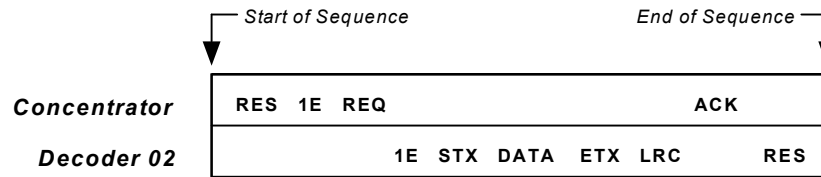

Figure 2-2 Polling Sequence
**Polling Sequence.** In the polling sequence example in figure 2-2, the concentrator begins the poll sequence with a RES (reset) followed by poll address, 1E, the ASCII hex value for Decoder 02.